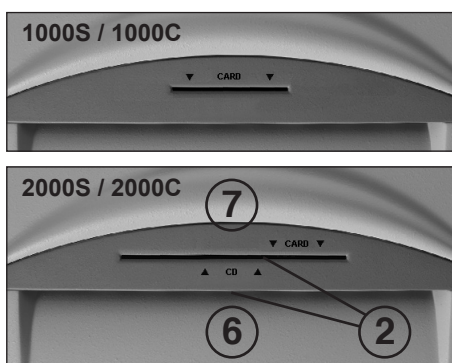

fig. 2
- 2 = Light barrier (forward running) (fig. 2)**
- Feed the paper into the cutting system through the paper feed slot (6) (fig. 2).
- Feed the data media (CDs, DVDs or credit cards) into the cutting system one by one through the separate CD/DVD(CARD) feed slot (7) (fig. 2).